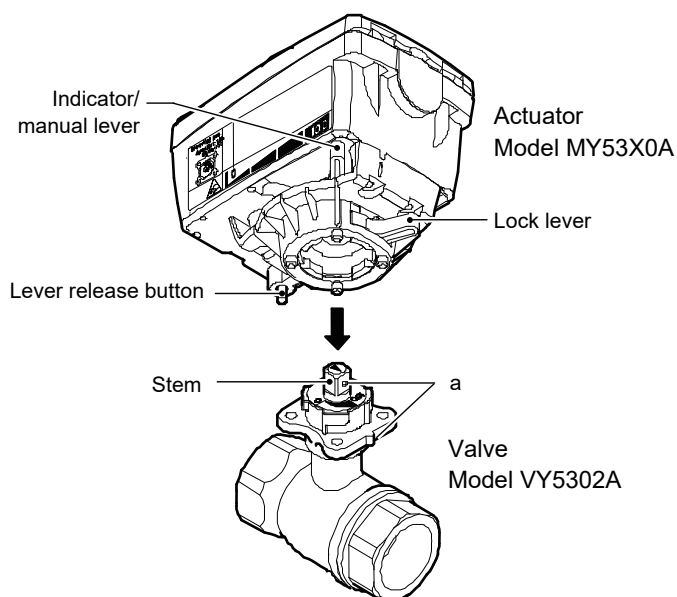

Figure 8. Mounting the actuator onto the valve
- The actuator can be horizontally rotated every 90 degrees to fit into the valve mounting position (4 mounting positions). Make sure the positions of the actuator and the valve as follows, referring to Fig. 8:
(Align the hole on the side of the stem with the tip at the joint surface as 'a' in Fig. 8 shows.)
- 3) Confirm that the arrow on the top of the valve stem points at "100". A hole on the side of the stem faces the same direction at which the tip of the valve joint surface (with the actuator) points when the valve position is fully open. (See 'a' in Fig. 8.)